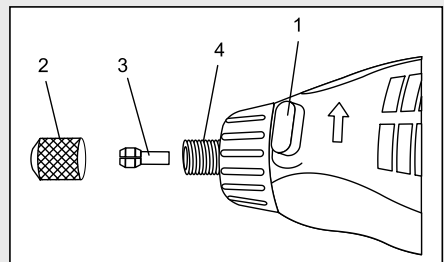

Fig. 2
2. Depress the spindle lock button (1) and slowly turn the collet nut (2) until the spindle lock button locks the spindle (4) (Fig. 2).
4. Remove the collet (3) by pulling it out of the spindle.